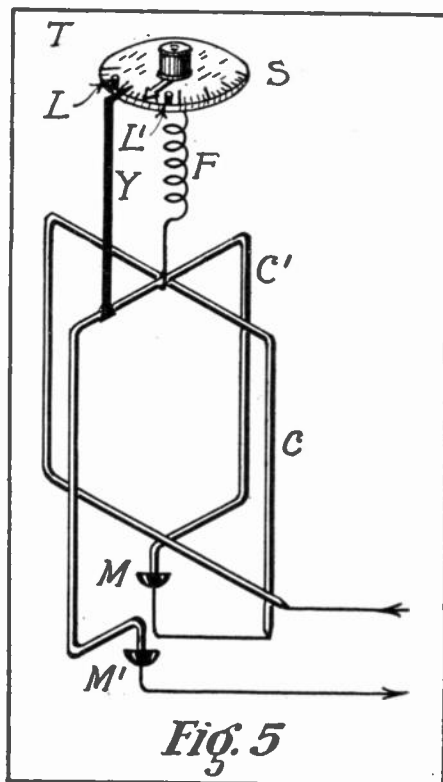

Fig. 5
The Siemens' Dynamometer, an extremely sensitive and accurate instrument, is shown in Fig. 5. It is one that requires considerable skill to operate, and is rarely used, except in laboratories. The coil (C') is movable, being suspended by means of a thread and spiral spring (F), and carries an index pointer (Y). The spring (F) is attached to a milled headed screw (T) which carries a pointer, and travels over a dial (S). Within the coil (C'), a fixed coil, (C) is placed, the two coils being connected in series through mercury cups (M, M'). When current is applied to the